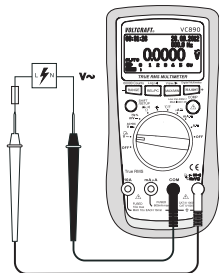

Fig. 10
1. Turn on the DMM and select the measurement range "V  $\sim$ ". Press the SHIFT/SETUP button (3) to switch to the measurement range " $\overline{\Delta}$ ".
2. Insert the red test lead in the  $\text{^{\circ}CHzV}\Omega$  measuring socket (7), the black test lead in the COM measuring socket (8) (Fig. 10).